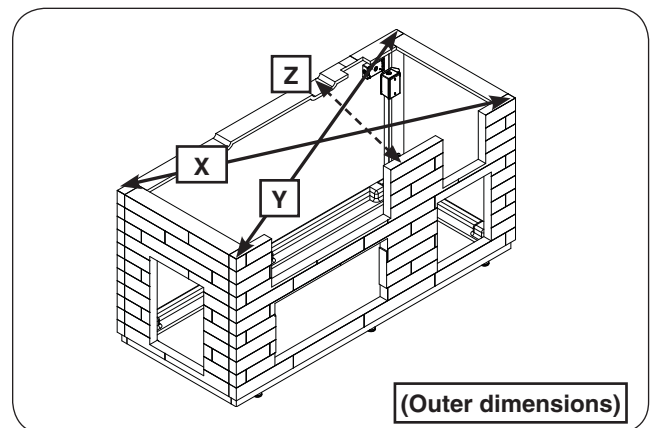

Fig. 8-3 Square unit (then tighten all bolts)
- a. Measure the X outer dimension, see Fig. 8-3. It should be approximately  $81 \frac{1}{2}$ ".
- b. Measure the Y outer dimension, see Fig. 8-3. Carefully adjust the walls as needed to ensure the X & Y dimensions are equal. (The final dimension may slightly vary from that mentioned in step a.)
- c. Measure the Z outer dimension, see Fig. 8-3. It should be approximately 32".